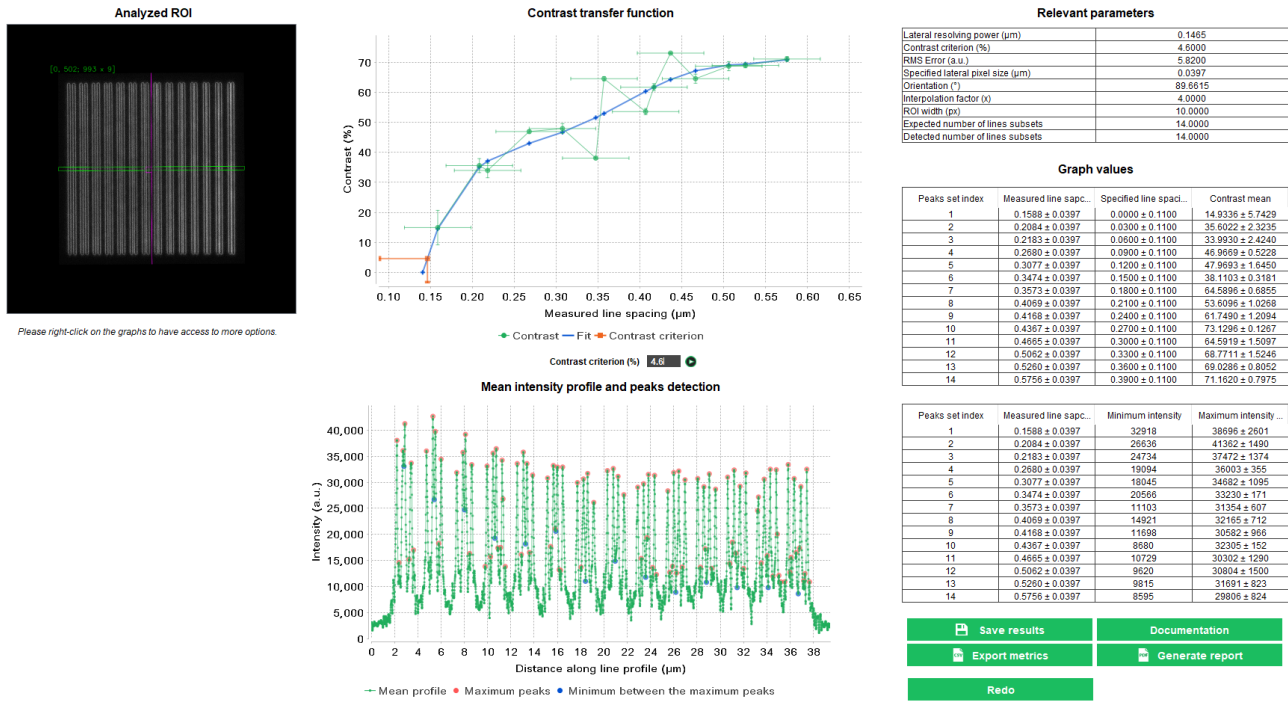

Figure 3: Bad detection of the peaks and valleys due to a too small ROI width, resulting in a “noisy” contrast transfer function.
- Bad detection with the ROI width set at 50 pixels (*cf.* Figure 3):